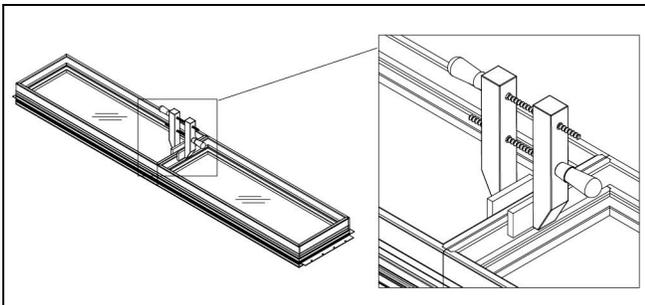

Figure 31
2. Position units together in the desired configuration. Check to be sure that the frames at both ends of the mullion are flush and the nailing fin kerfs are aligned. Lightly clamp units together on interior near each end to hold mulled units in place (use wood blocks to protect interior). See Figure 31.